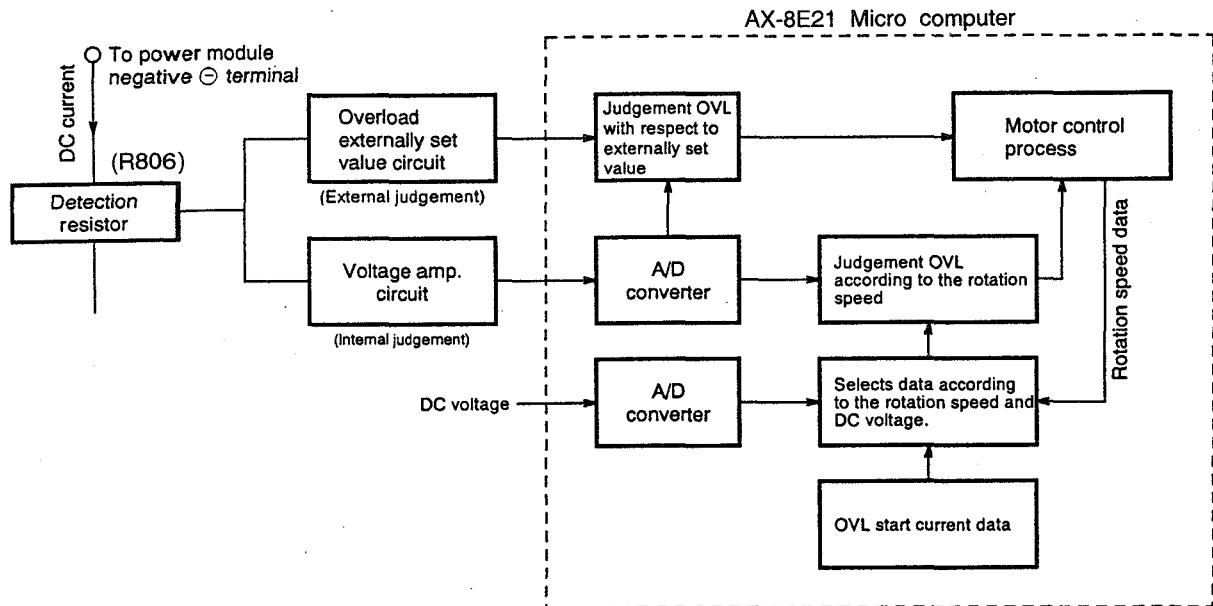
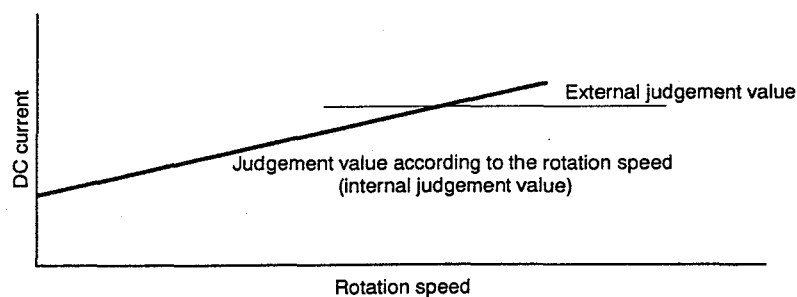

Fig. 8-4 Overload Control System Configuration
Fig. 8-5
- As shown in the figure, when current exceeding 18A flows, voltage at point A detected by detection resistor is input to \oplus terminal of COM (A). If it exceeds \ominus terminal voltage, which is set value, output pin voltage (point B) of COM (A) changes from Lo to Hi. Thus, Q1 is turned ON to stop drive circuit and, at the same time, voltage at point C changes from Hi to Lo to send I_p signal to pin 22 of microcomputer (observed by pin 30 of HIC) and microcomputer stops drive.
(2) Overload control circuit (OVL control circuit)
- Fig. 8-4 shows the overload control system configuration and Fig. 8-5 is a characteristic diagram of overload judgement values. There are two judgement methods-external judgement which compares the externally set value with the DC current value regardless of the rotation speed and internal judgement which compares the set value that varies according to the rotation speed programmed in the micro computer software with the DC current value.